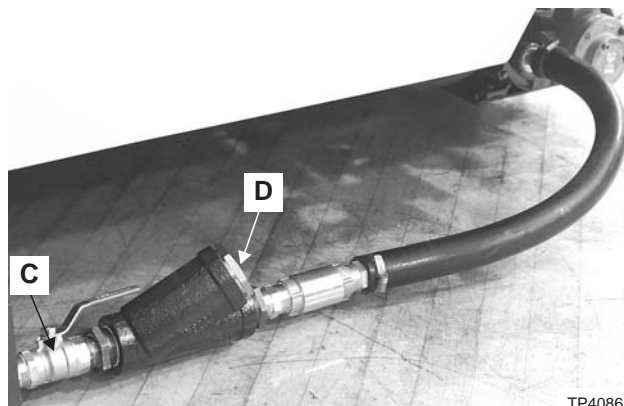

Figure 3.3 - In-Line Y Filter and Valves
Depending upon the valve configuration, ball valve "C", may be in front of the in-line Y filter (as shown in Figure 3.3) or behind it.
2. Close ball valve "C", Figure 3.3, (handle perpendicular to the coolant line) and wipe filter cap "D" clean with a lint free cloth.